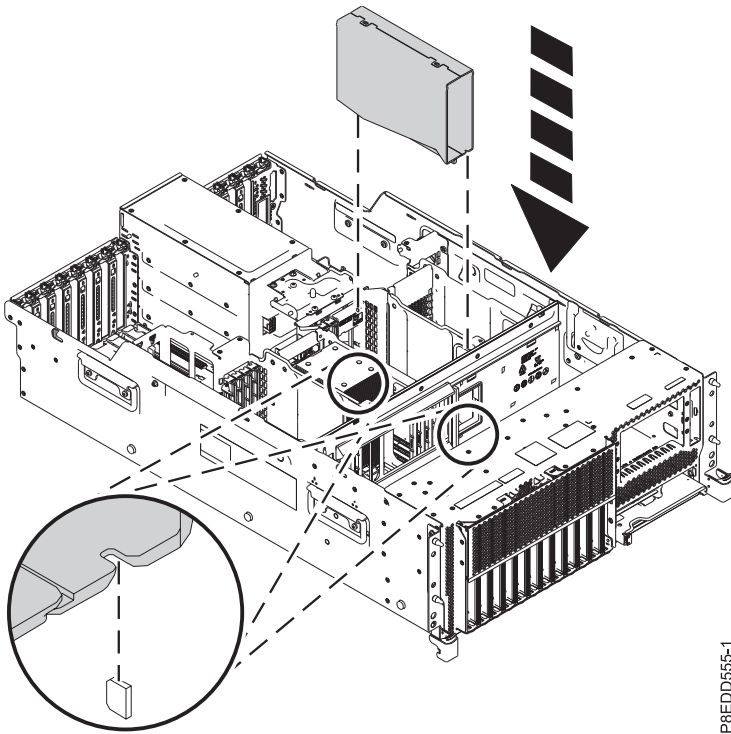

Figure 30. Replacing the air duct
- c. Replace the air duct by lining the slot in the bottom of the duct with the tab on the front inner guide, then lower the duct into position, as shown in Figure 30.